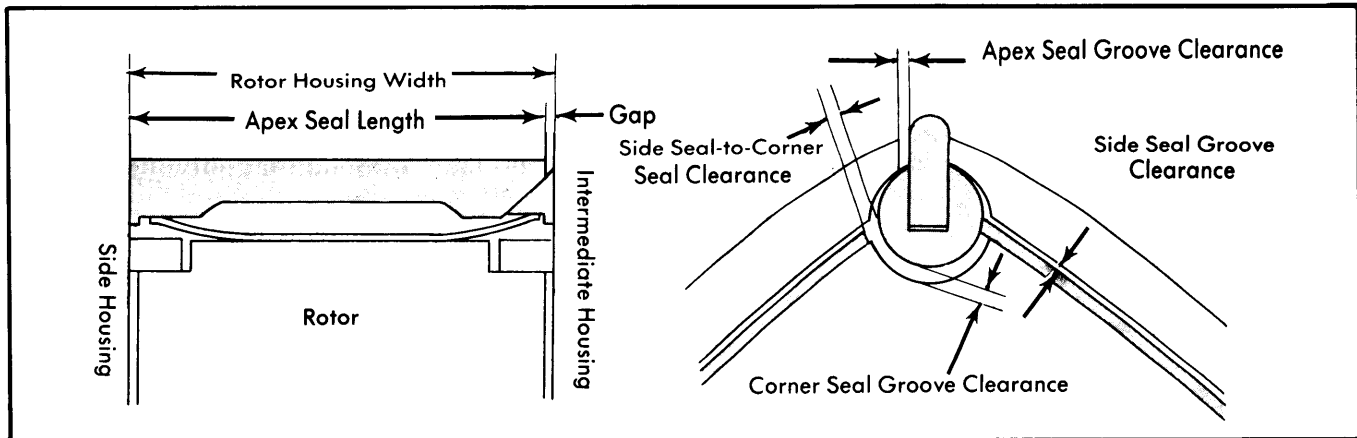
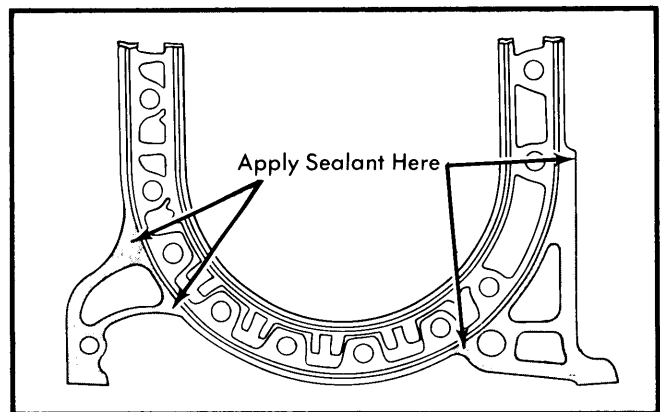

Fig. 16 Measuring Clearance of Apex, Side & Corner Seals
Fig. 21 Applying Sealing Agent to Rotor Assembly
1) Apply sealing agent to front side of front rotor housing in areas shown in Fig. 21. Do not use cooling system sealers.
4) Insert apex seal springs, confirming spring direction, Fig 16. Install corner seal springs and corner seals in their respective grooves. Install side seal springs and side seals. Fit side pieces to their original positions. Apply engine oil to all seals. Apply sealant to rear side of front rotor housing in areas shown in Fig. 21. Apply engine oil to sliding surfaces of front rotor housing.